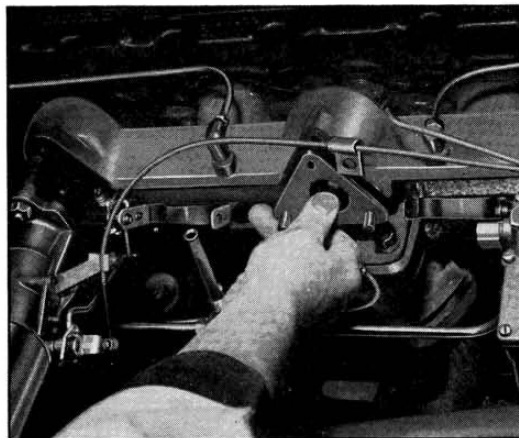

Fig. 13
1. Install the insulator "A" with the side marked top at the top stud location and with the beveled perimeter of the insulator facing out from the manifold (fig. 13).